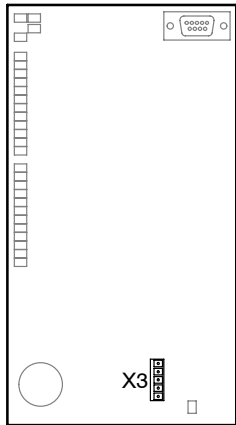

Fig. 3-27
8. Insert the light tower plug into X3 of the I/O board #1 (Refer to Fig. 3-27).
9. Use a cable tie to fasten the cable to one of the metal teeth (5) below the bracket *Cable duct*.